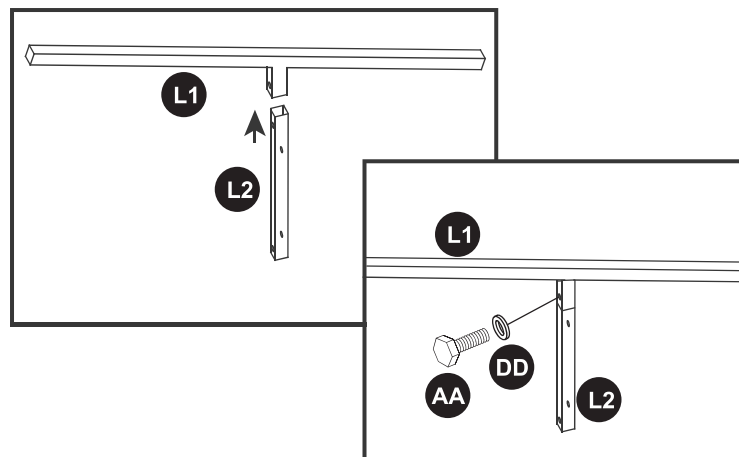

Fig.13
10.1 Slide the Connecting Tubes (L2) into the Vented Roof Supports (L1) and connect them with Bolts and Washers (AA/DD). See Fig.13.